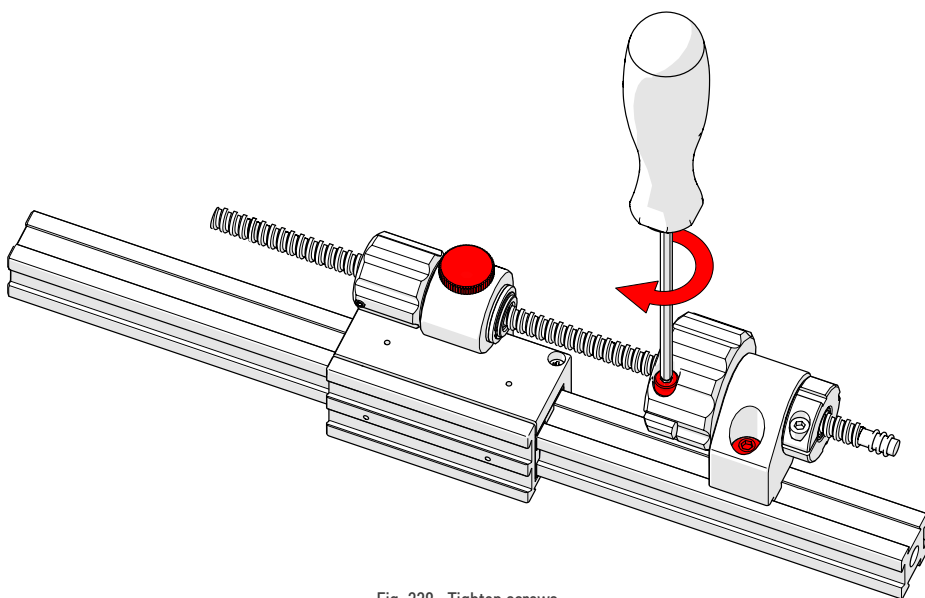

Fig. 229 - Tighten screws
7. Tighten the main knob's hexagonal screw and lock screw, as well as tighten the slider lock knob (Fig. 229 - note red highlight).